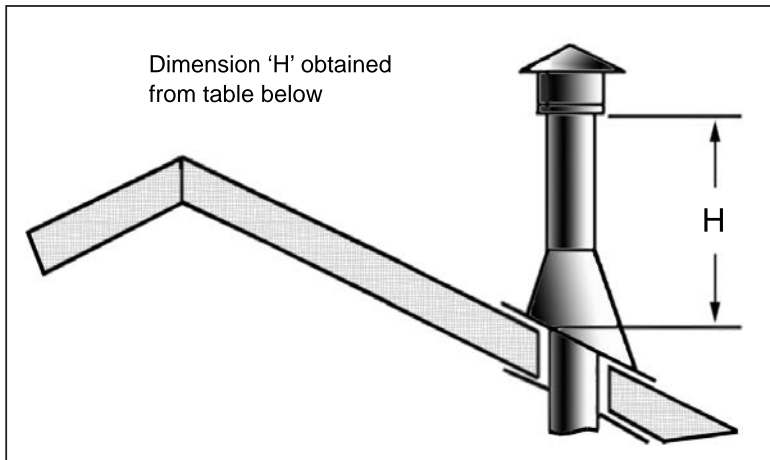

**Figure 66: Vertical Vent Termination**
- Step 4.** Measure roof pitch. Select the proper flashing and storm collar and determine the height above the roof (see Figure 66). A non-corrosive pipe material must be used for all exterior pipe lengths. Seal nail heads with silicone.